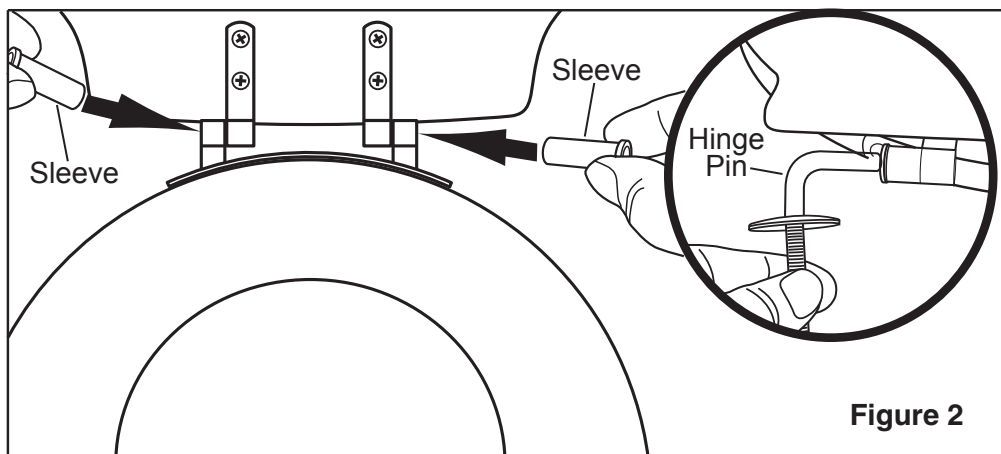

Figure 2
**Insert the plastic sleeves**, that lock the seat and cover together, before inserting the hinge pins into the sleeves. Figure 2